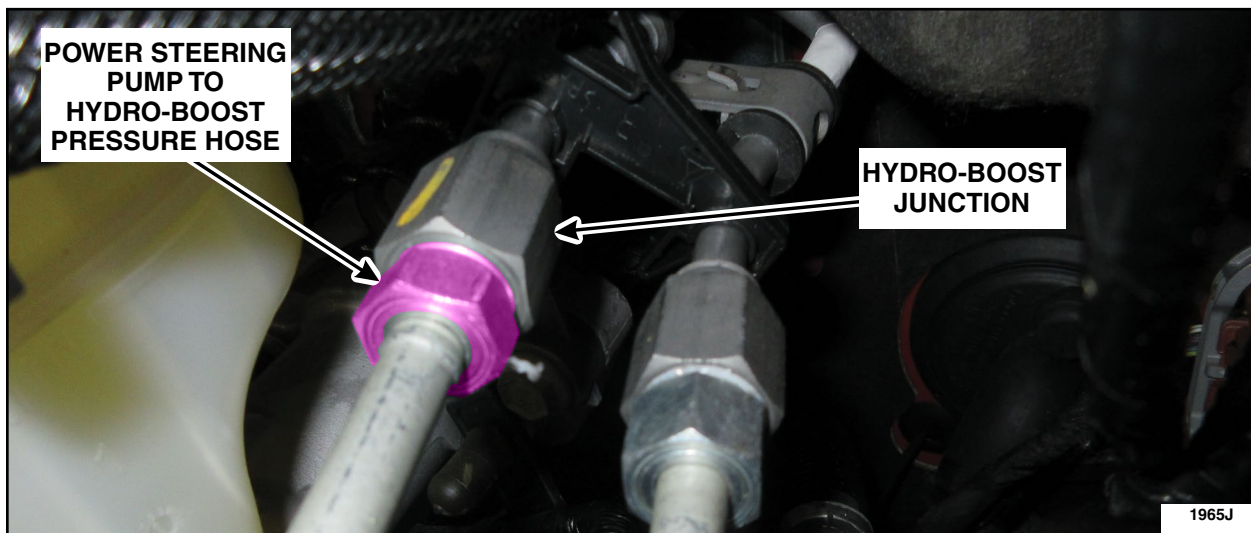

FIGURE 11
5. Remove the hose fitting from the Hydro-Boost junction and disconnect the power steering pump to Hydro-Boost pressure hose. See Figure 11.